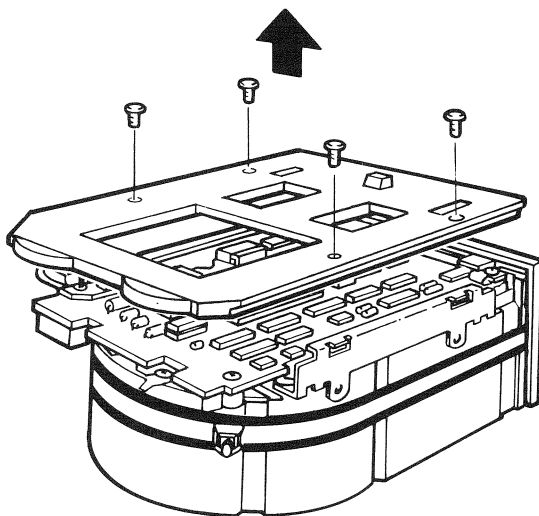

Figure 10-9 Slide Plate Removal
1. Remove the four Phillips screws retaining the slide plate and ground clip. Set the slide plate aside (Figure 10-9).